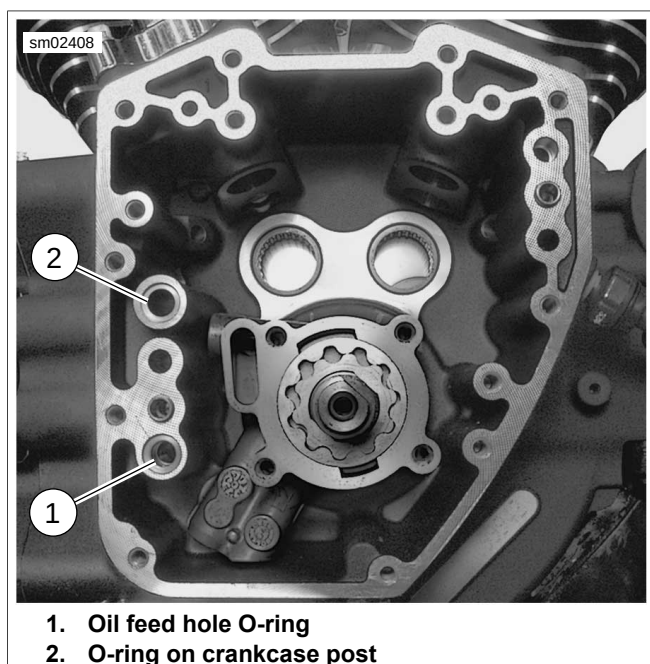

Figure 3-118. Oil Pump O-rings
4. See Figure 3-118. Remove and discard O-rings (1, 2).
6. See Figure 3-118. Apply a very thin film of SCREAMIN' EAGLE ASSEMBLY LUBE to **new** O-ring (3) for crankcase post. Install **new** O-ring in groove on crankcase post.